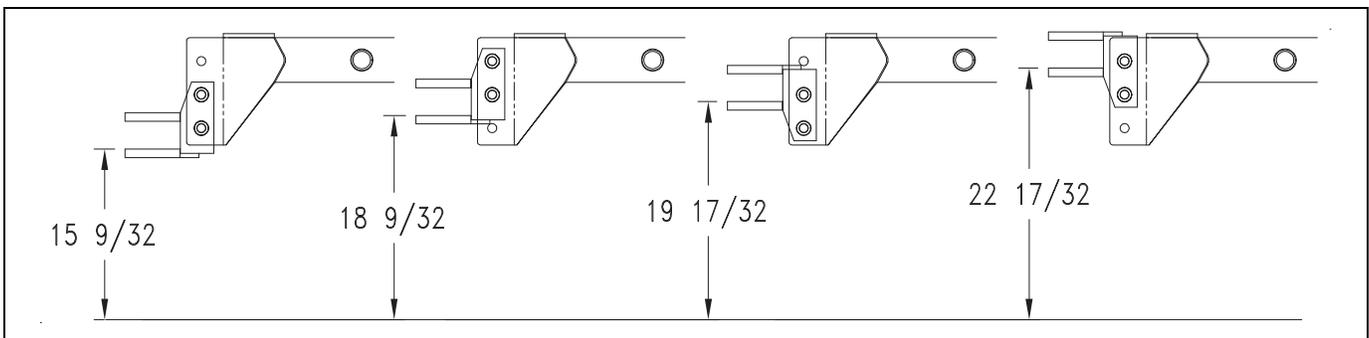

Figure 7
2. With drill tongue level, adjust drill hitch on drill tongue to match your tractor-drawbar height. Refer to Figure 7. You can move the hitch up or down or turn it over for a total of four different hitch heights.